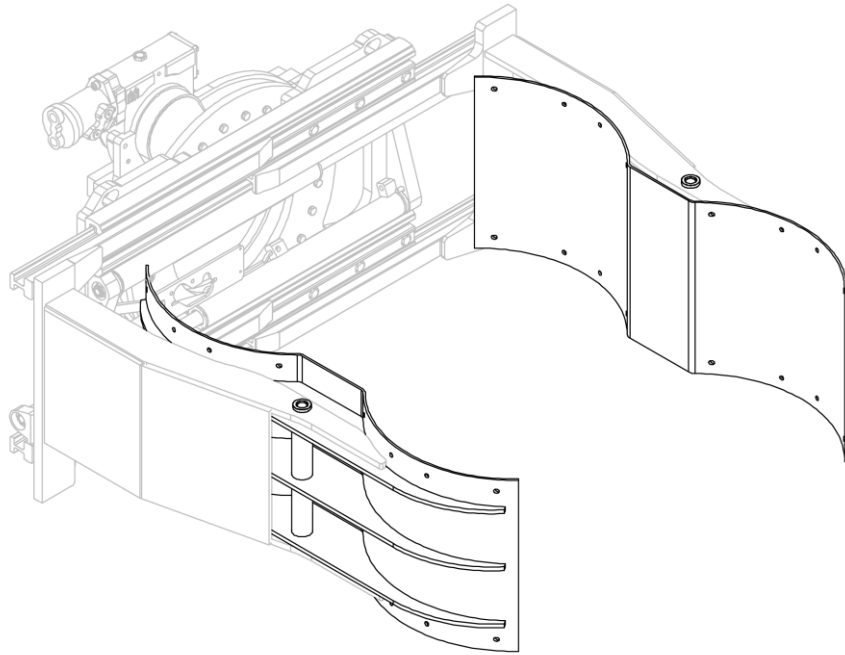
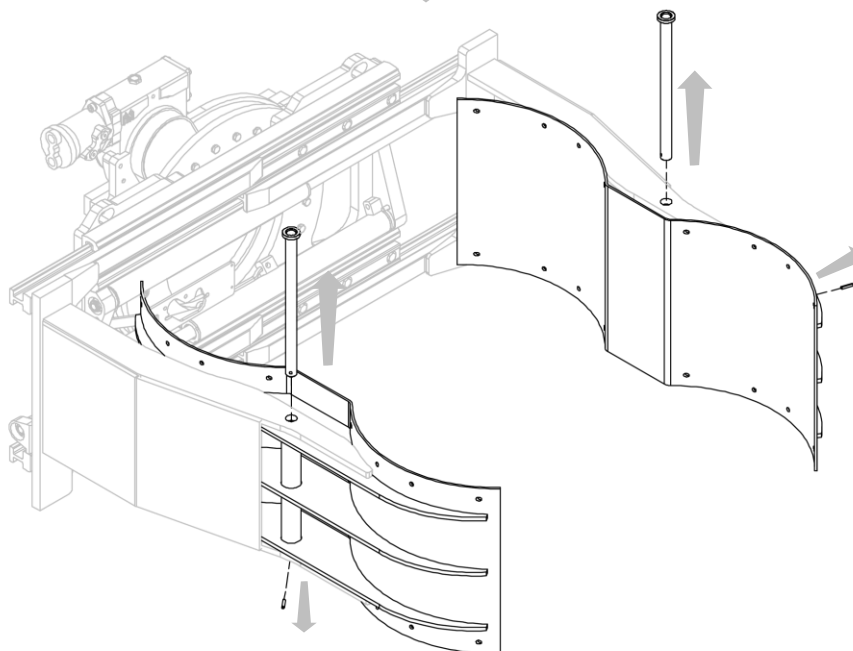

Figure 28
Figure 29
3. Remove the jaws from the forks, removing the pins and spring pins that secure them (see *Figure 28 e Figure 29*).